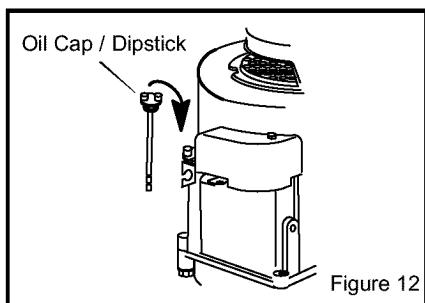

Figure 12
4. Remove the **oil fill cap** (see Figure 12). Fill the engine crankcase. Pour slowly. Do not overfill. See "Product Specifications" for amount and type of oil. Install the **oil fill cap**.